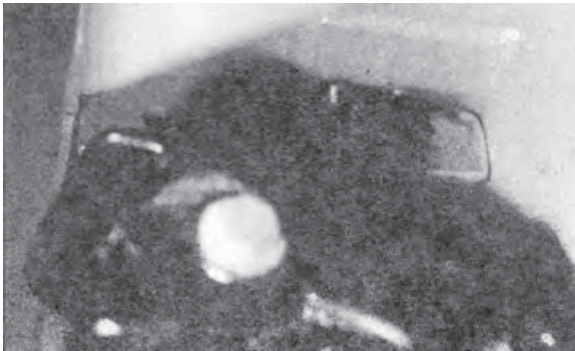

Figure 7-9.
13. Make sure that the lower frame rails are aligned and 34 inches apart. Tack the rear mounting plates to the tailgate and mark the three mounting holes on each side. (See Figure 7-9.)